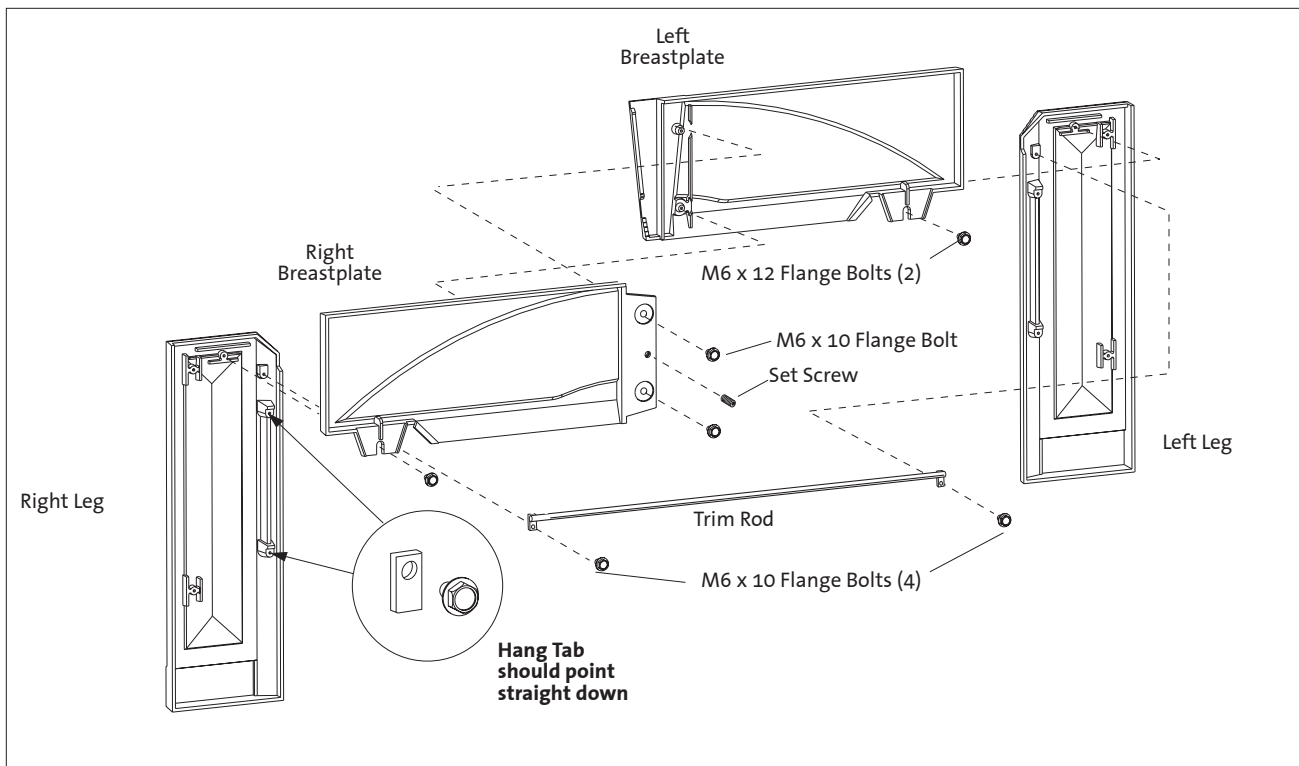

Figure 12. Surround Panel Assembly
1. **Layout the parts.** Place the castings face down on a protective surface such as carpeting, blankets or a sheet of cardboard. See fig. 12, page 12.
3. **Attach the Leg plates.** The Legs must be oriented with the Hang Tabs on the inside edges as shown in fig. 12. Use the two remaining M6x 12 hex head flange bolts to attach the Legs to the Breastplate assembly. See Fig. 12.